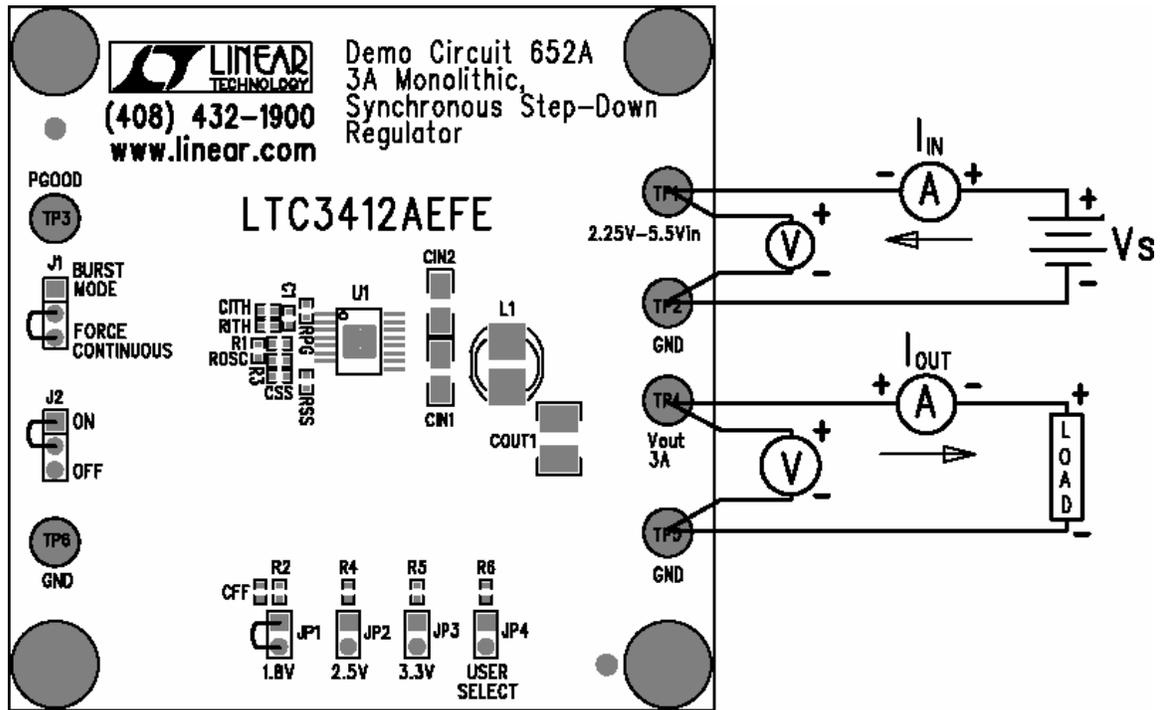

Figure 1. Proper Measurement Equipment Setup
The DC652 demonstration board is easy to set up to evaluate the performance of the LTC3412A. For proper measurement equipment configuration, set up the circuit according to the diagram in Figure 1. Before proceeding to test, insert jumper J2 shunt into
1. Connect the input power supply and the load to the board. Do not hot-plug V_{in} or increase V_{in} over the rated maximum supply voltage of 5.5V, or the part may be damaged. Refer to figure 1 for the proper measurement equipment setup.